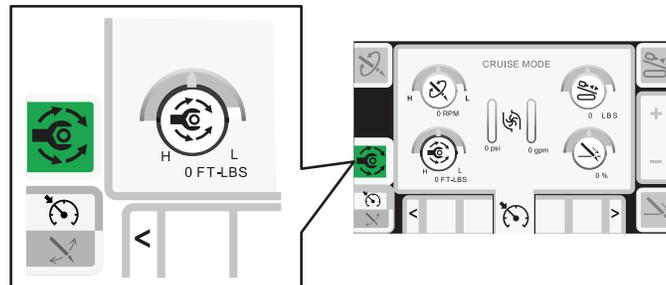

Figure 11
**Note:** The icon turns green and a green circle highlights the option you select (Figure 11).